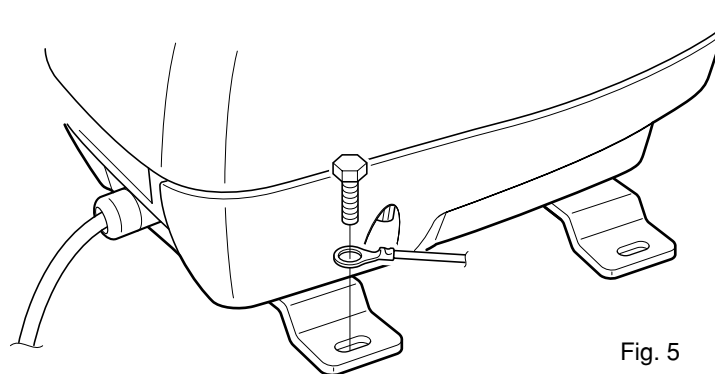

Fig. 5
- ② Apply lubricant specified below or an equivalent one to the motor bearing*³, if required.
- ③ Connect the grounding wire to the ground plate with the supplied terminal if required. (Fig. 5)